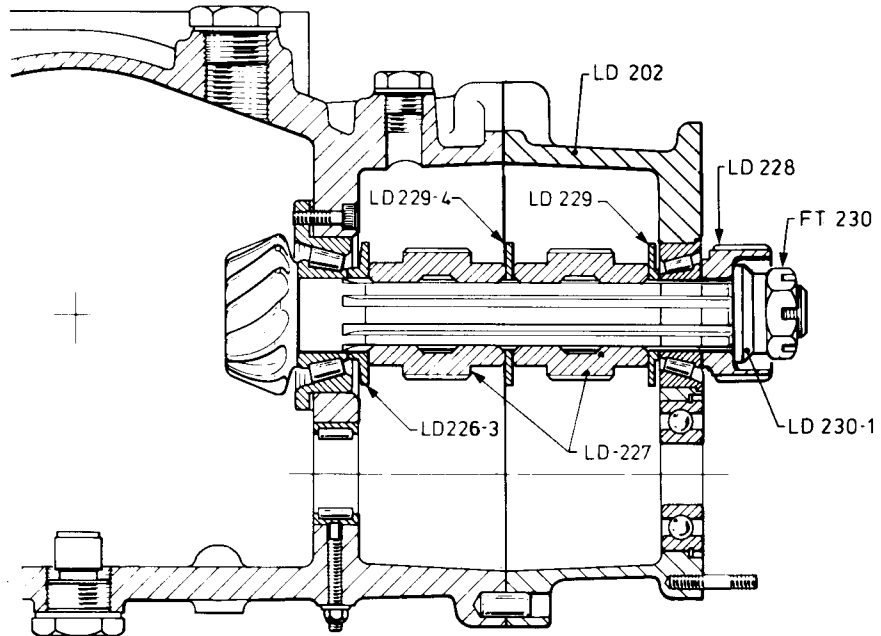
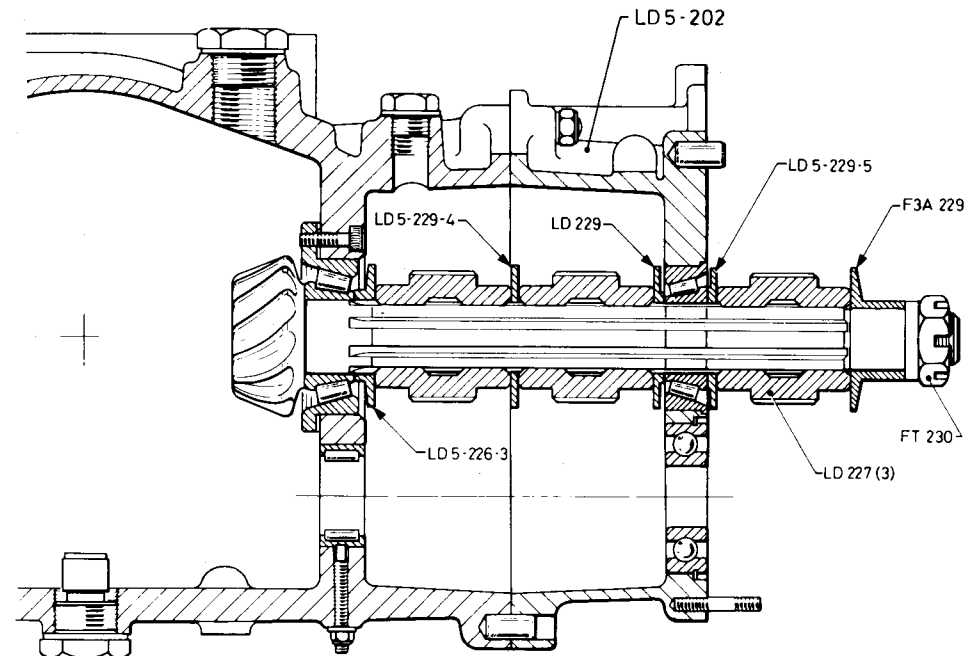

Fig. 6
Fig. 7
- a) Assemble pinion shaft into the bearings with the hubs and spacers as shown in Fig. 6 (4 speed) or Fig. 7 (5 speed).